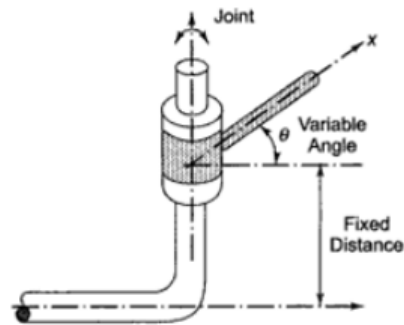

Fig. 1.6 Revolute pair (R)
- The revolute pair (R) as shown in Figure 1.6